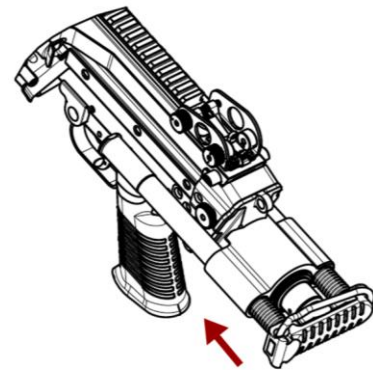

Figure 4
2. With the buttstock frame now horizontal, tap the buttplate forward. The buttstock frame will collapse and the frame rods will slide alongside the sides of the receiver. Continue to push the buttstock frame fully forward to the locked position. See Figure 4